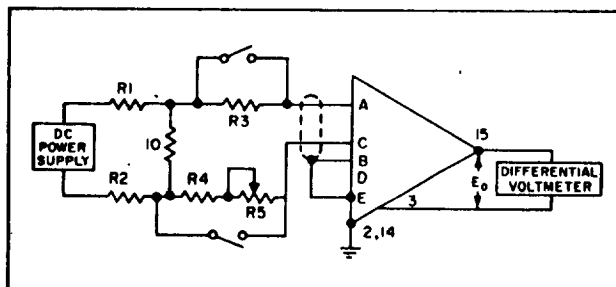

Figure 6-10. Input Resistance Test Circuit (With Gain Multipliers)
- 1) Connect the amplifier as shown in Figure 6-10. Select R1 and R2 to provide the necessary attenuation (R1 and R2 are the same value). If attenuation is not required, jumper R1 and R2 and remove the 10 ohms resistor. R3 and R4 are 10,000 ohm,  $\pm 1\%$  resistors. R5 is a 1000 ohm wirewound trimpot. It may be necessary to place R4 in series with R3 instead of R4 (as shown), depending on the characteristics of the amplifier under test.
- 2) Repeat steps (2), (3), (4), (5), and (6) of the previous procedure.